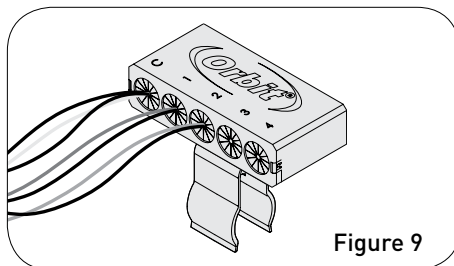

Figure 9
7. Insert each wire nut into the corresponding cavity inside the “Easy Wire” Organizer (Figure 9)